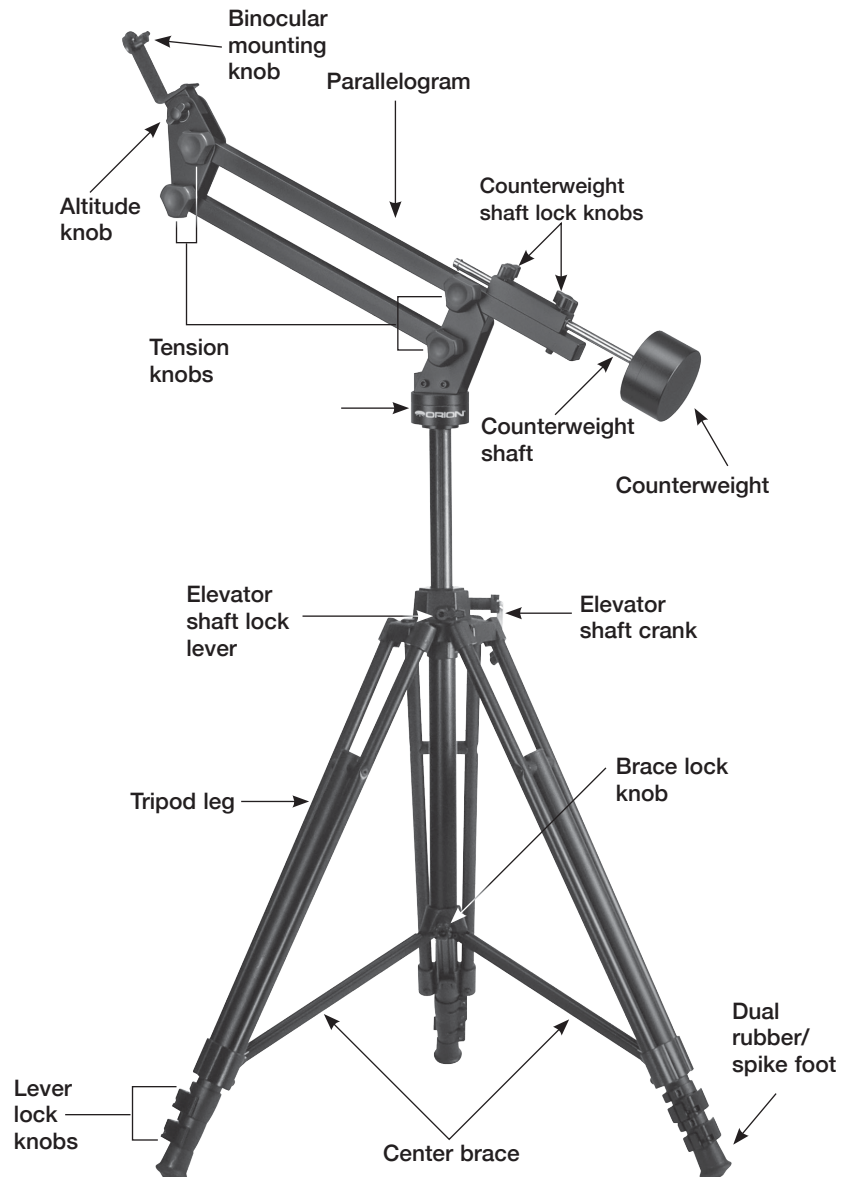

Figure 1. The Paragon-Plus binocular mount
The attachment instructions cover the attachment to either the Paragon-Plus tripod (included with #5379), or any sturdy tripod you might already have. You will need a flat-head screwdriver and a 2mm hex wrench to attach the binocular mount to a tripod. Refer to Figure 1 during assembly.
- 2) Turn the binocular mount upside down. On the bottom of the pivot disk (Figure 1) there is a 3/8" threaded hole containing a brass 1/4"-20 threaded insert. This may need to be removed, depending on the tripod you are using. Compare the size of the threaded post on the tripod with the size of the brass insert. If the brass insert is too small, then it will need to be removed. It should be removed to use it with the Paragon-Plus tripod in the #5379 package. Use the flat-head screwdriver to do this.
- 3) Spread the legs of the tripod as far as they will go and lock them in place with the brace lock knob (Figure 1). Keep the legs at their shortest height, for now. The Paragon-Plus tripod has a very wide stance for enhanced stability. The widest stance is achieved when the tri-brace is as far down as it will go on the elevator shaft housing. The brace lock knob should be tightened to secure the stance. When using the binocular mount, the tripod legs
Your Paragon-Plus binocular mount is now assembled and should resemble Figure 1.